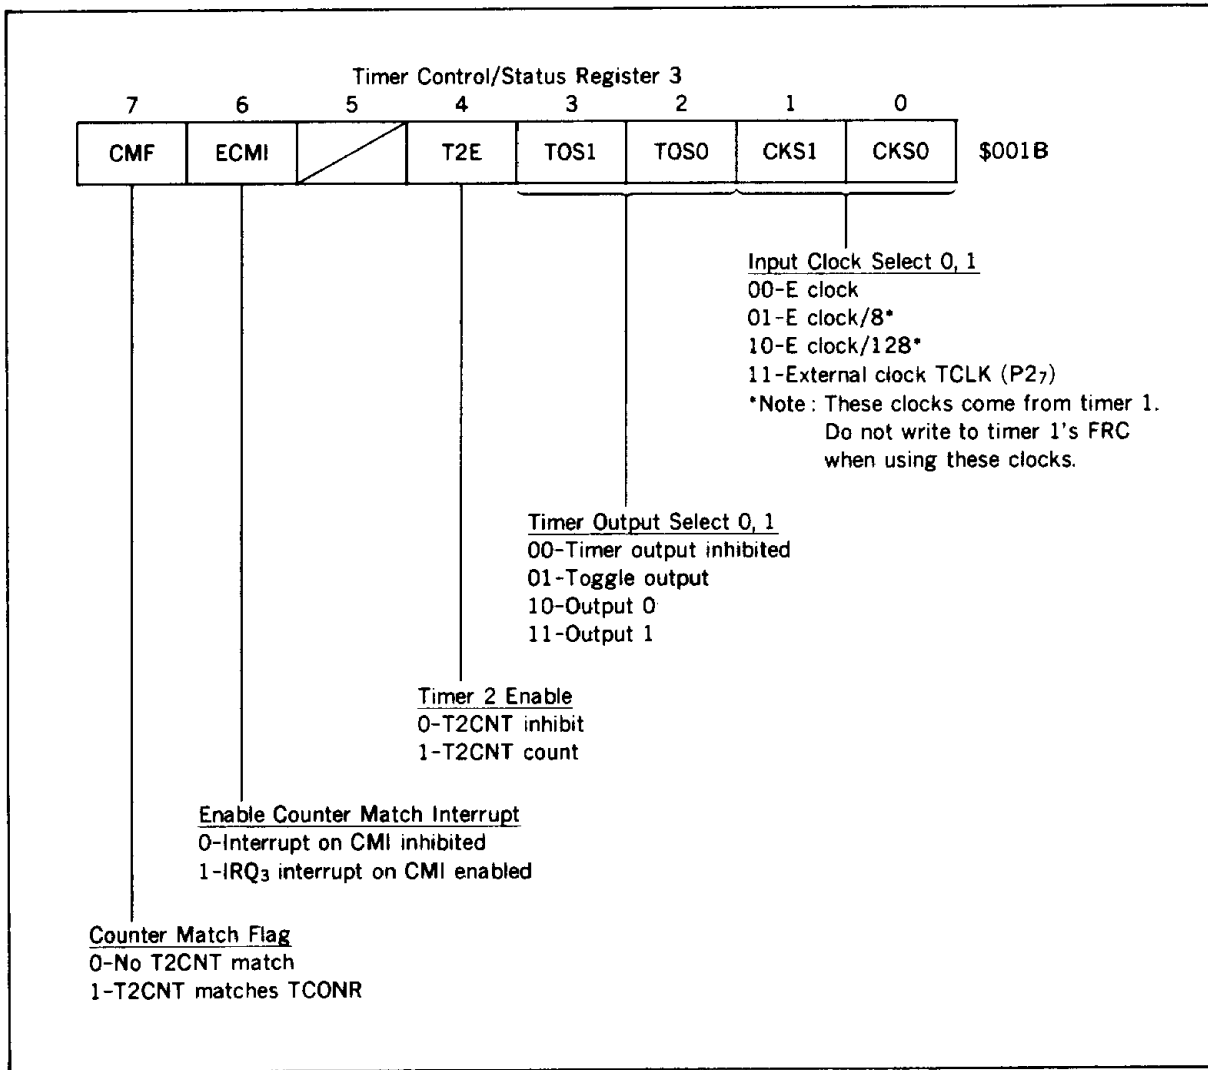

Figure 30. Timer Control/Status Register 3
Timer Control/Status Register 3 : Timer control/status register 3 (TCSR3: \$001B; figure 30) is a 7-bit register. All bits can be read and all bits except for bit 7, CMF, can be written to. CMF can only be cleared, not set. The TCSR3 is cleared at reset.
- **CKS0, CKS1**: CKS0 and CKS1 select timer 2's input clock as shown in figure 30. When an external clock is selected, P2₇ will be the clock input automatically.
- **TOS0, TOS1**: TOS0 and TOS1 select the output that occurs on a counter match as shown in figure 30.